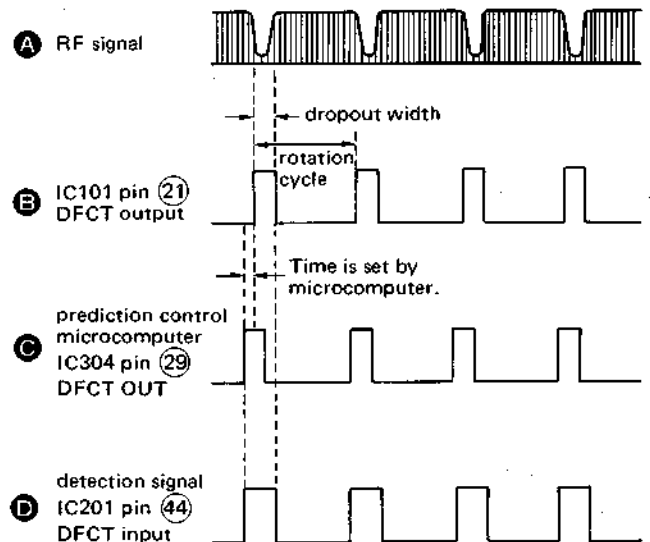

Fig. 2 Defect Detection Waveforms
Refer to Figures 2 and 3 for the following explanation of operation. When there is a defect on the disc, the RF signal is cut (A), envelope detection is done inside IC101 (the same as the conventional method) and output is from pin (21).